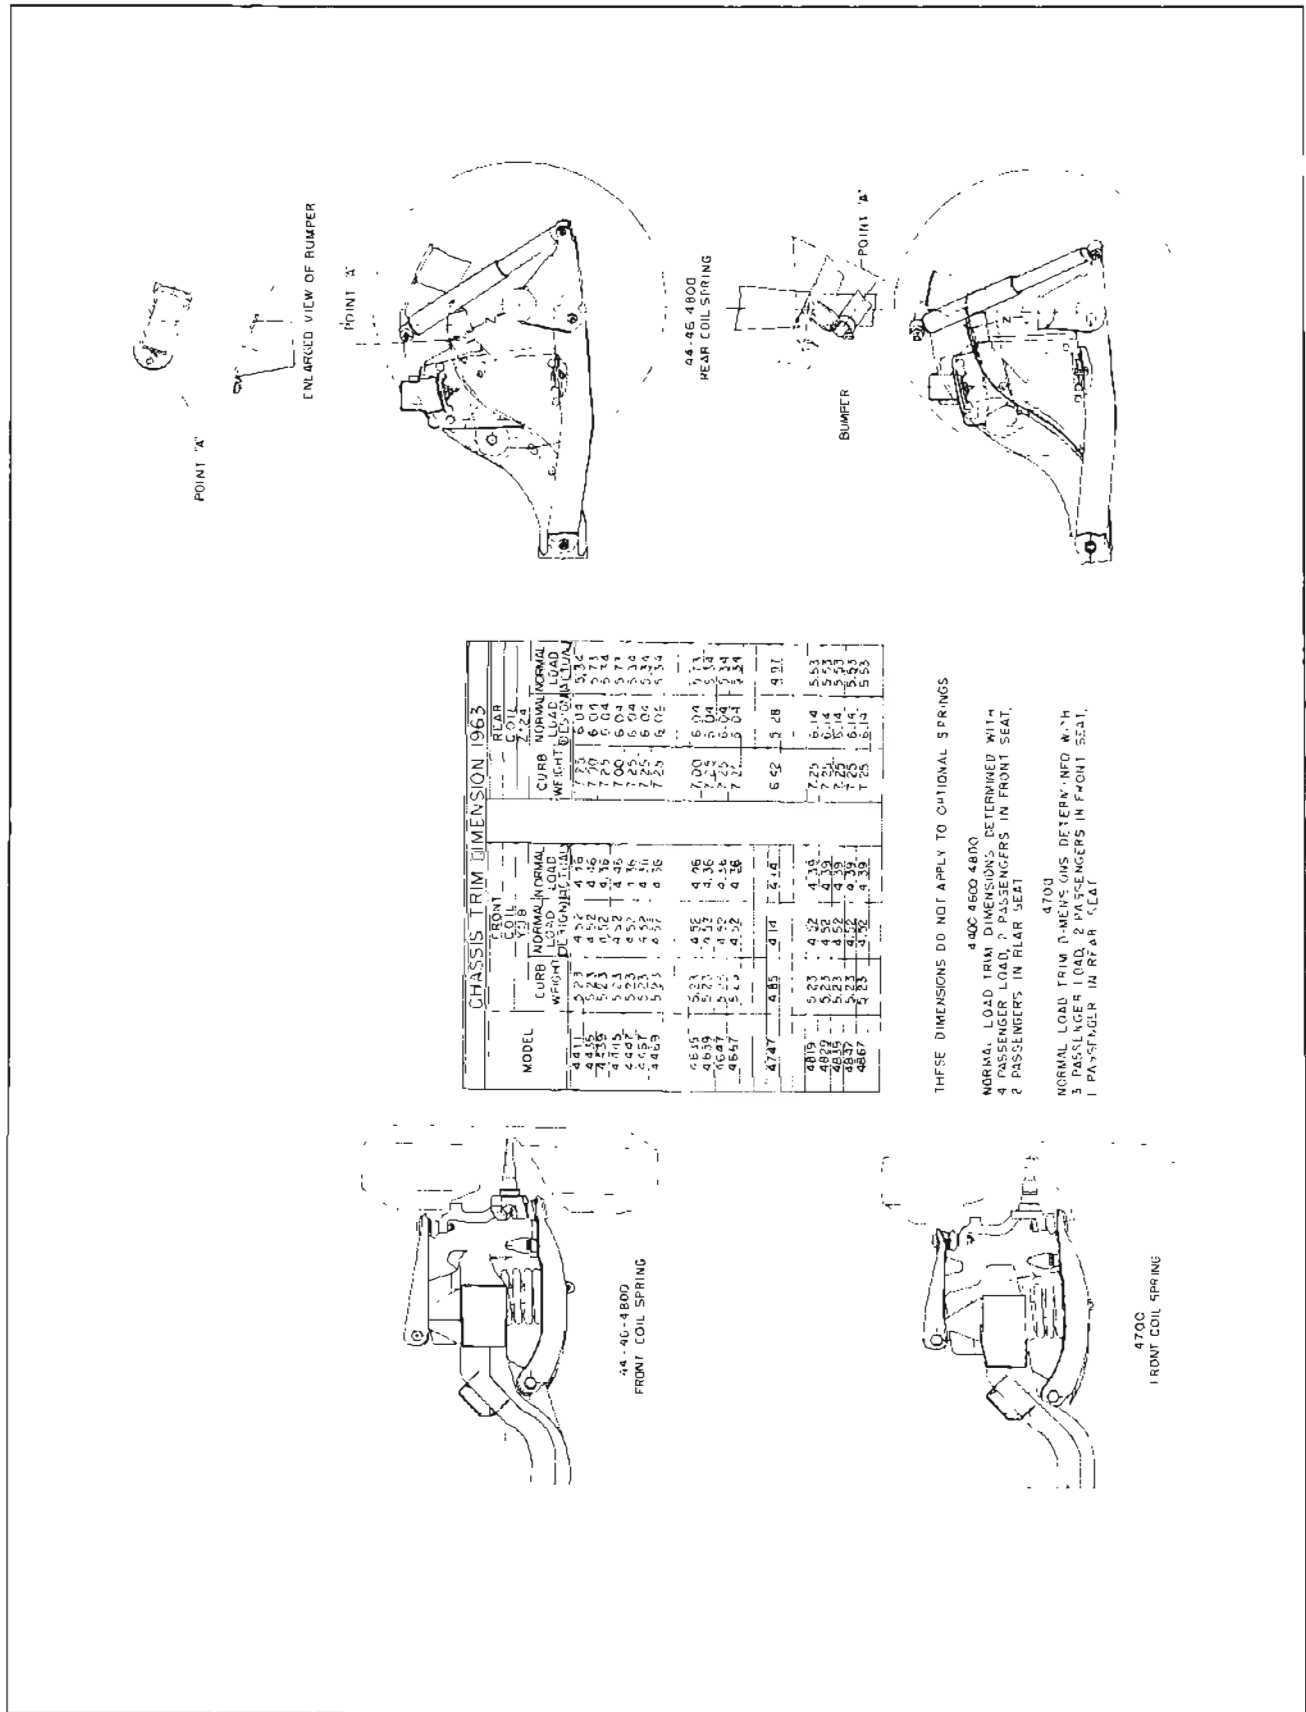

Figure 7-17—1964 Chassis Trim Dimensions
Before measuring spring trim dimensions, bounce both ends of car up and down several times to make sure there is no bind in suspension members, and to let springs take a natural position. When car is at rest, measure the trim height at point "Y" for front spring or point "Z" for rear spring, as indicated in Figure 7-17.
(1) Front Springs. On a car having service miles the front spring trim-dimension "Y" should be as shown in Figure 7-17 chart.
(2) Rear Springs. On a car having service miles the rear spring trim dimension should be as shown on Figure 7-17 chart.